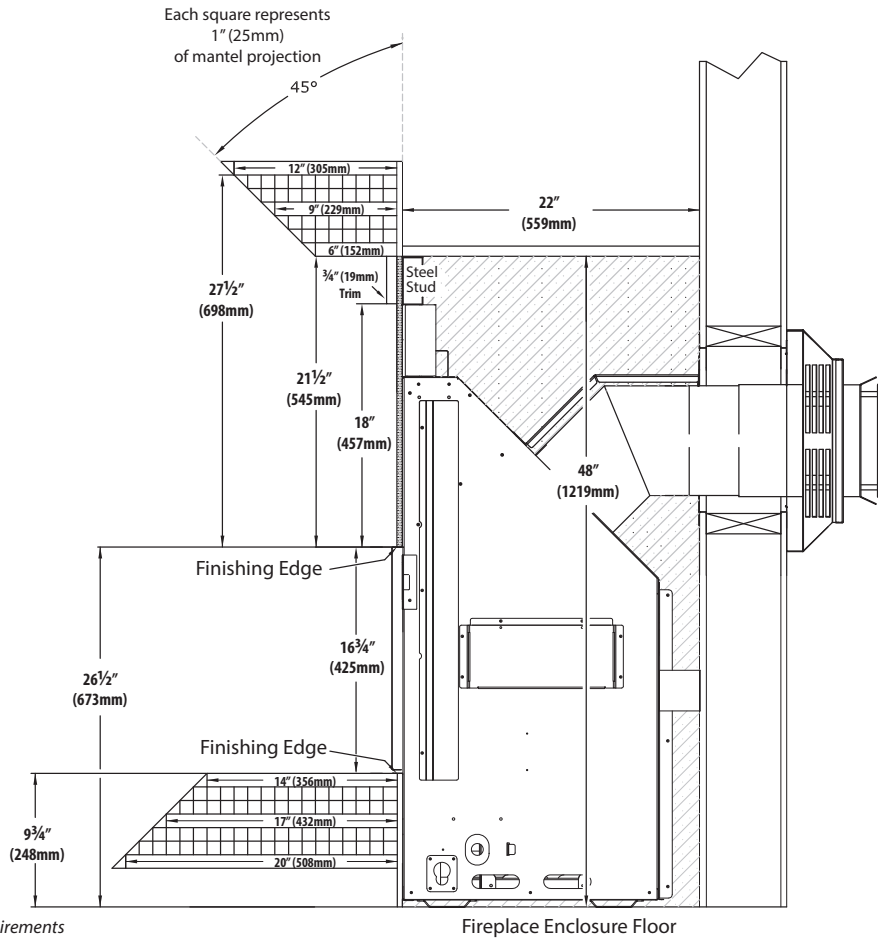

Figure 4.1, Mantel and Hearth Requirements
- **Combustible Mantel Projections (no surround)** - As referenced in Figure 4.1, the 3/4" trim can start at 18" (457mm) above the finishing edge with a 6" (152mm) mantel starting at 21-1/2" (545mm) above the finishing edge. Mantel projections can increase 1" (25mm) of depth for every 1" (25mm) of height starting at the 6" (152mm) mantel.
- **Combustible Hearth** - As referenced in Figure 4.1, the bottom of the finishing edge can be flush with the top of the hearth if you are not using any optional surrounds. Refer to 4.3 Masonry Finishing Guidelines for Optional Surrounds on page 32 if installing with optional surround.